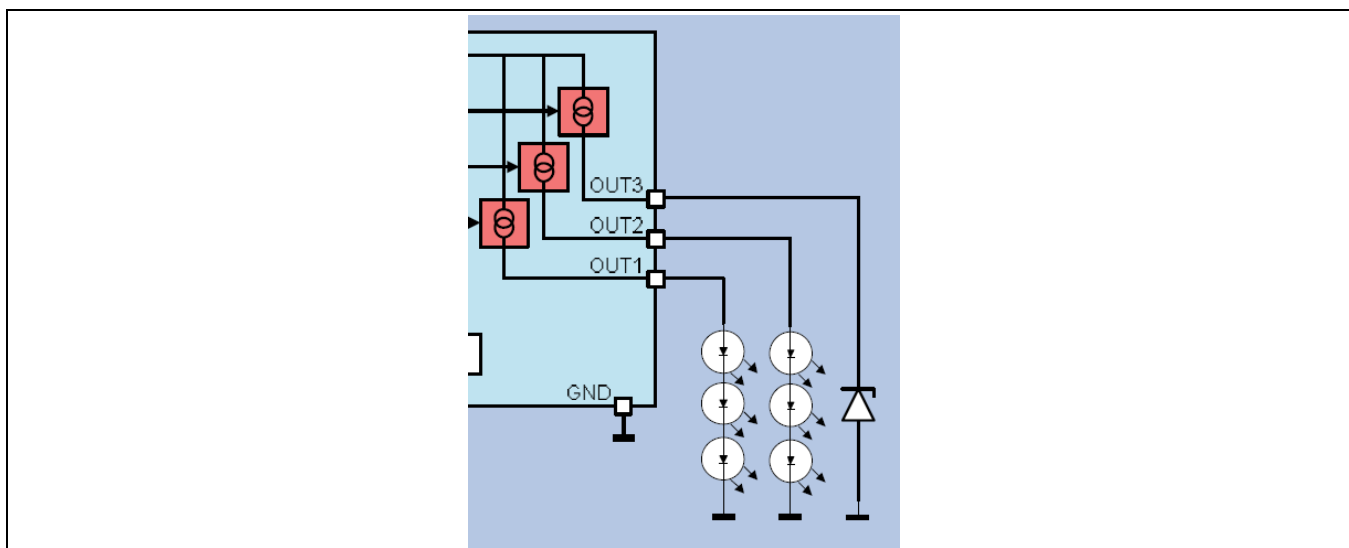

Figure 4 Connection of unused outputs via zener diode (TLD1313 and TLD1314 only)
- Devices with N-1 detection, but no short circuit (SC) to ground diagnosis (TLD1326, TLD1311 and TLD1315), the outputs can be connected to ground, as these devices disable a shorted channel.
- The TLD1313 and TLD1314 must have the unused outputs connected via a zener diode as shown in Figure 4 to avoid shutdown due to open load detection if left open. Open load is triggered when the voltage difference between the supply and the output is too low and below the threshold $V_{PS(OL)}$, and short circuit to ground diagnosis if connected to ground. The clamping voltage of the zener diode should be in the range of the total LED forward voltage on the used channels. The voltage on any output (either with LED's or zener diode) must be 2.5V or greater to ensure proper operation.